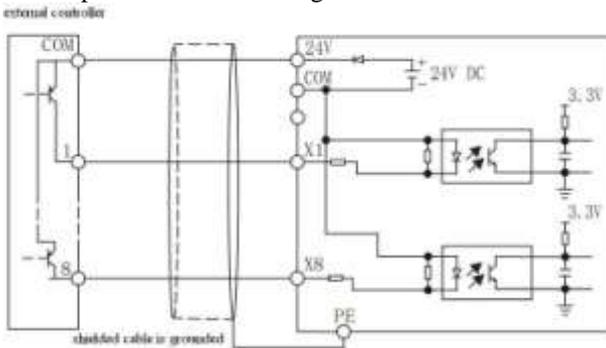

Fig. 3-9 Drain connection of using frequency converter's internal +24 power
- 2) Use the internal +24V power of the frequency converter; the external controller connects PNP-shape emitter and supports its output. Please refer to Fig. 3-9.